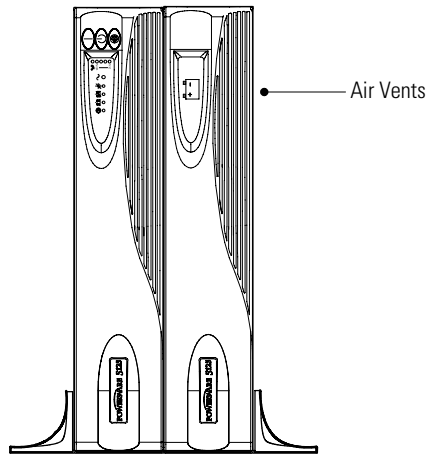
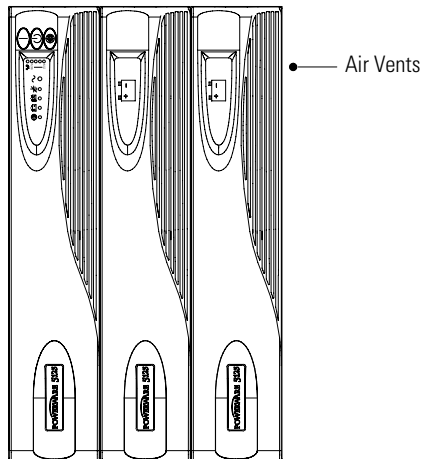

Figure 12. Pedestals with Two Cabinets
Figure 13. Tower Setup with Three Cabinets
10. Carefully position the cabinets upright with the air vents at the top (see Figure 12 or Figure 13).